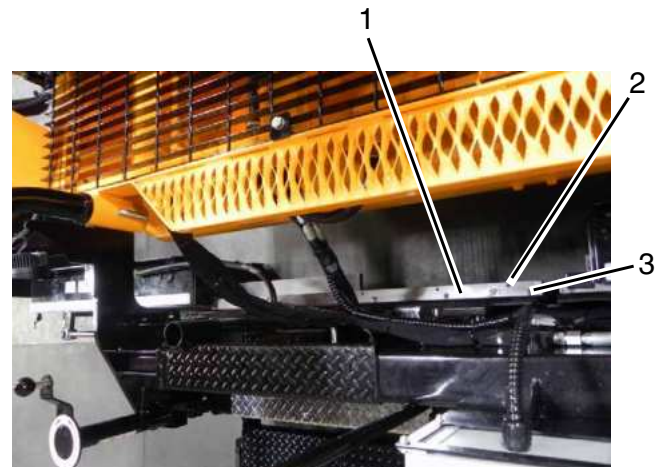

Figure 5-9. Screed Extension Top Guide Adjustment
2. Loosen the top guide and hold-down bolts. (**Figure 5-9**)